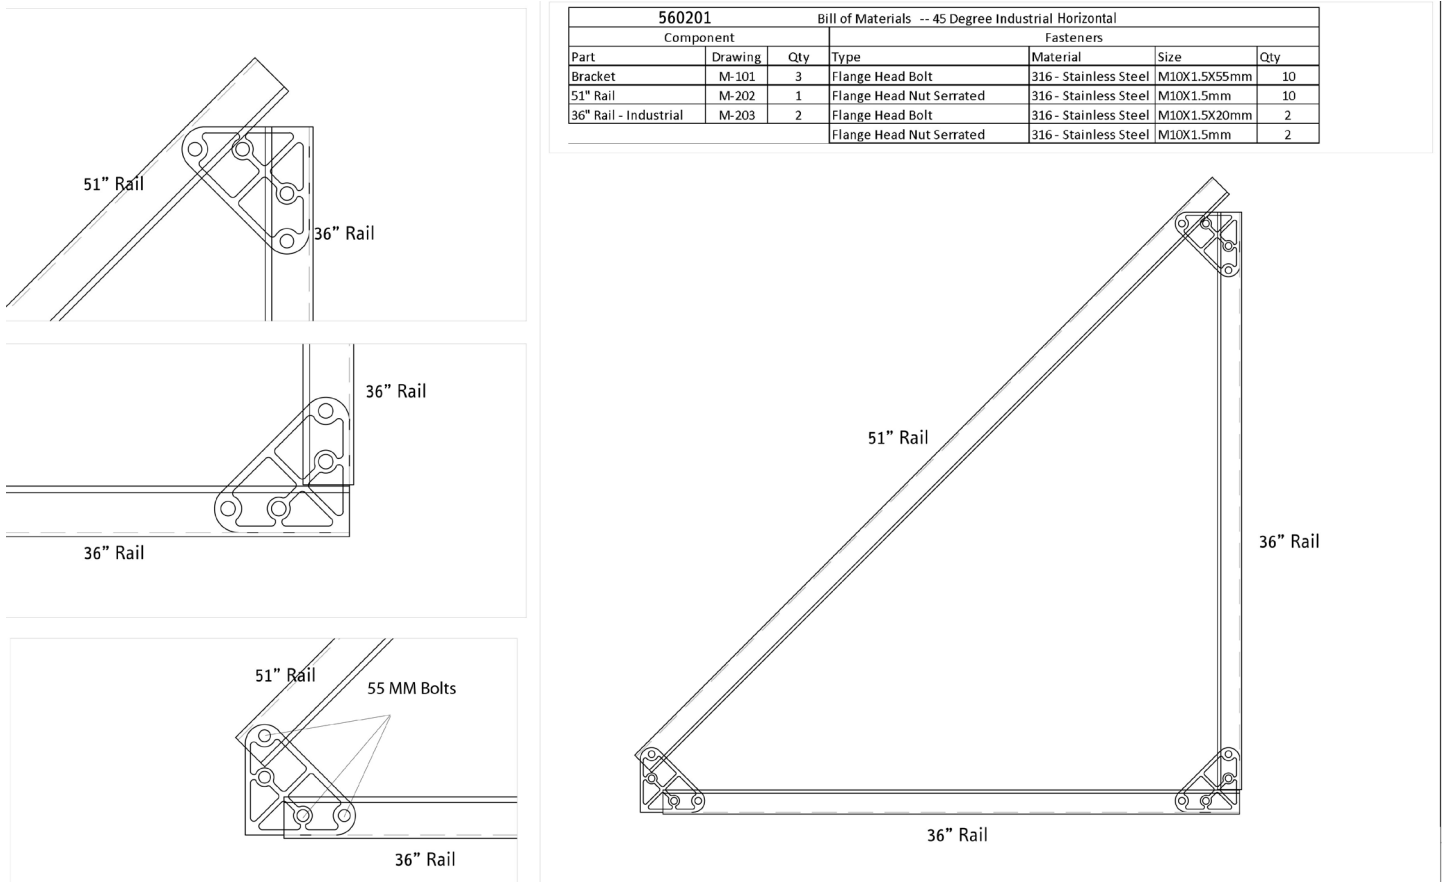

Figure 5.3.1: 45° Horizontal Mounting Kit (Part # 560101) Component Listing and Assembly Example
2. Assemble 2 triangular trusses using the 36" rails (M-203), the 51" rails (M-202), the brackets (M-101), and the 55 mm bolts as shown in Figure 5.3.1.